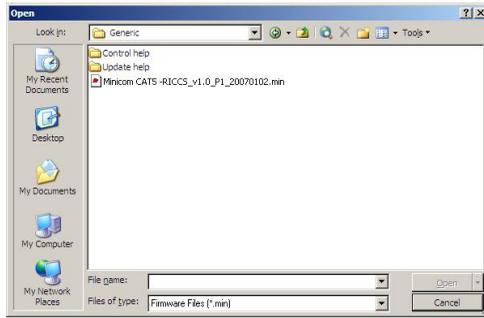

Figure 62 Open box
2. From the **File** menu, choose **Open**. The **Open** box appears. See Figure 62.